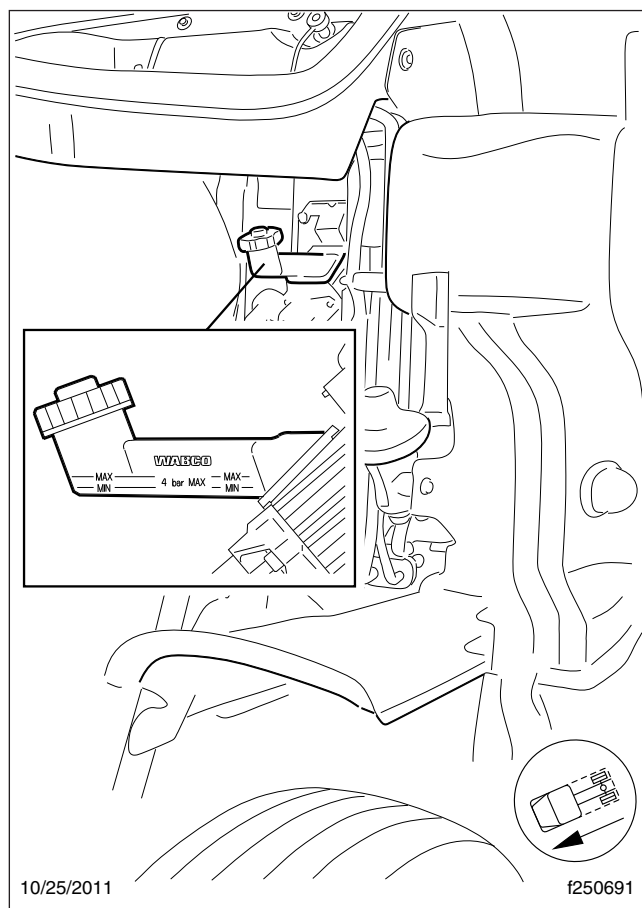

Fig. 5, Reservoir, Hydraulic Clutch Control
If the fluid level is below the MIN line, fill the reservoir with new DOT 4 brake fluid from a tightly sealed container until the level reaches the MAX line. See **Fig. 5**.
3. Remove the reservoir lid (see Fig. 5) and install the pressure bleed adaptor on the reservoir.
- 2. Remove the reservoir lid and fill the reservoir (see Fig. 5) with new DOT 4 brake fluid from a tightly sealed container.
If the fluid level is not within the COLD RUN band, add or drain fluid as needed to adjust the fluid level to the middle of the COLD RUN band. See Fig. 5.
If the fluid level is not within the HOT RUN band, add or drain fluid as needed to bring the fluid level within the HOT RUN band. See Fig. 5.